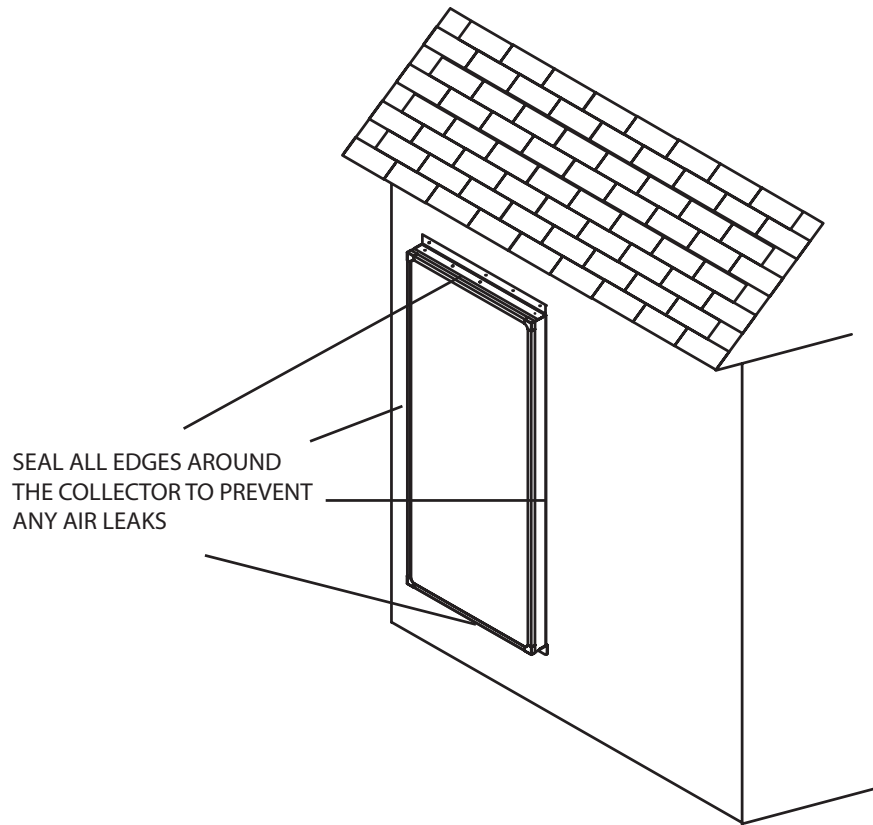

Figure 21. Sealing the outside of the collector.
m. Seal the outer edges of the collector with an industrial grade silicone as shown in Figure 21. This will help seal the collector to the outside wall and prevent any air leaks.